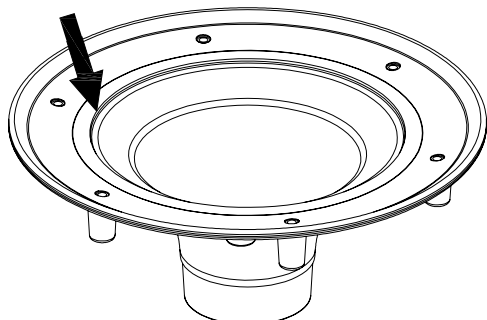

Fig. 2
3. Cut the membrane as per the roof membrane manufacturer's requirements in the center of the clamping collar. Continue to cut outward until the precast cutting edge in the drain body is located (Fig 2). Once precast edge is found, cut out circular section of membrane by following the cutting edge. **Warning: Failure to properly cut the membrane along the prescribed cut edge of the drain body may result in decreased flow performance of the roof drain.**